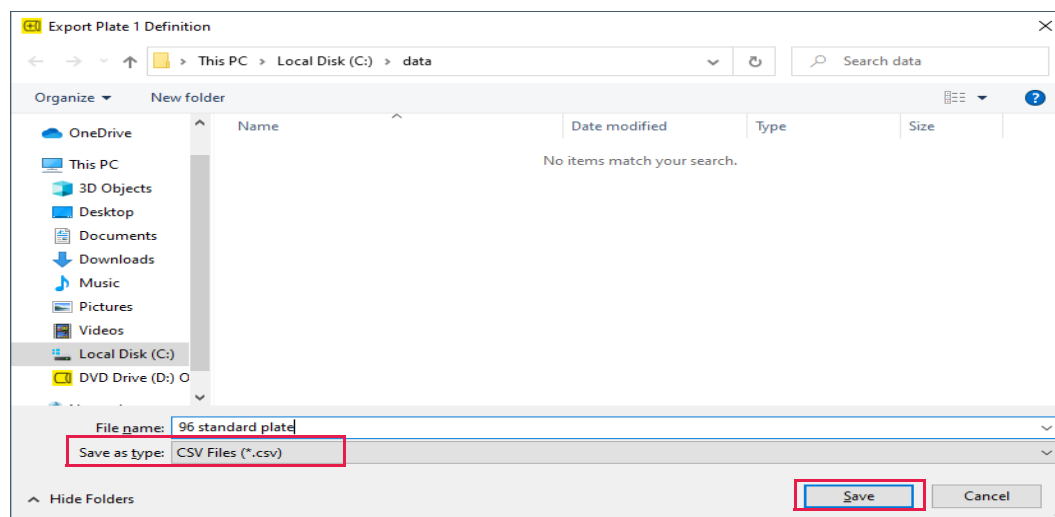

Figure 6-22: Export Plate Definition Window
- In the **Export Plate Definition** window (see Figure 6-22), select a folder, enter a name for the plate (.csv), and click **Save**.